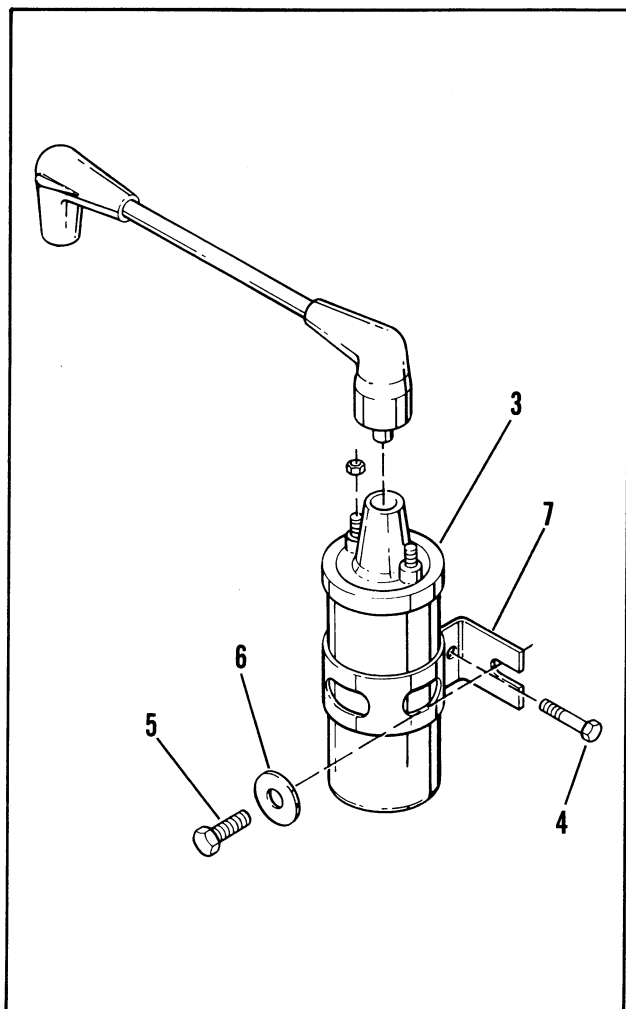

Figure 93 – Ignition Coil
- c. See Figure 93. Remove the two mounting bolts (5), washers and locknuts (6). Remove the coil.
Installation (Figure 93)